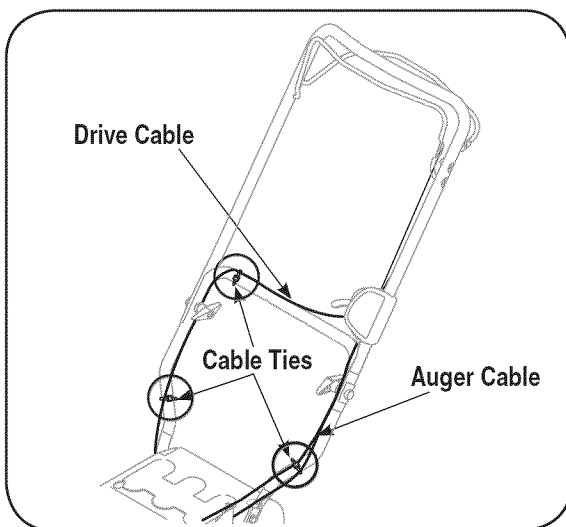

Figure 5
1. The drive cable, and auger cable route down through the speed control box on the left side of the handle. The auger cable, and speed control cable then route down the left lower handle. The drive cable is routed across the top of the lower handle and finally down the right lower handle. See Figure 5.
2. Three cable ties have been used to loosely tie the two control cables to the lower handle. Two of these cable ties are on each arm, and third on the top cross bar of the lower handle. Tighten these cable ties to secure cables to the lower handle. See Figure 5.